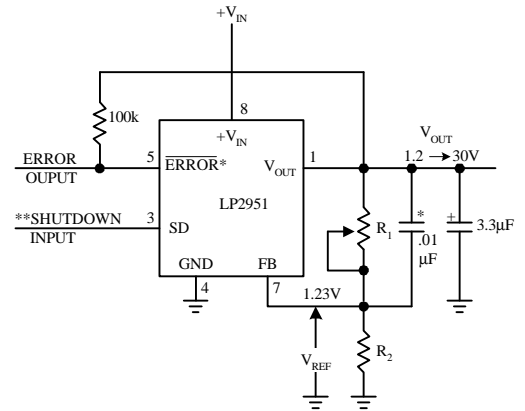

FIGURE 2. Adjustable Regulator
The LP2951 may be pin-strapped for the nominal fixed output voltage using its internal voltage divider by tying the output and sense pins together, and also tying the feedback and V_{TAP} pins together. Alternatively, it may be programmed for any output voltage between its 1.235V reference and its 30V maximum rating. As seen in Figure 2, an external pair of resistors is required.
*When $V_{IN} = 1.3V$ the error flag pin becomes a high impedance, and the error flag voltage rises to its pull-up voltage. Using V_{out} as the pull-up voltage (see Figure 2), rather than an external 5V source, will keep the error flag voltage under 1.2V (typ.) in this condition. The user may wish to drive down the error flag voltage using equal value resistors (10 k suggested), to ensure a low-level logic signal during any fault condition, while still allowing a valid high logic level during normal operation.